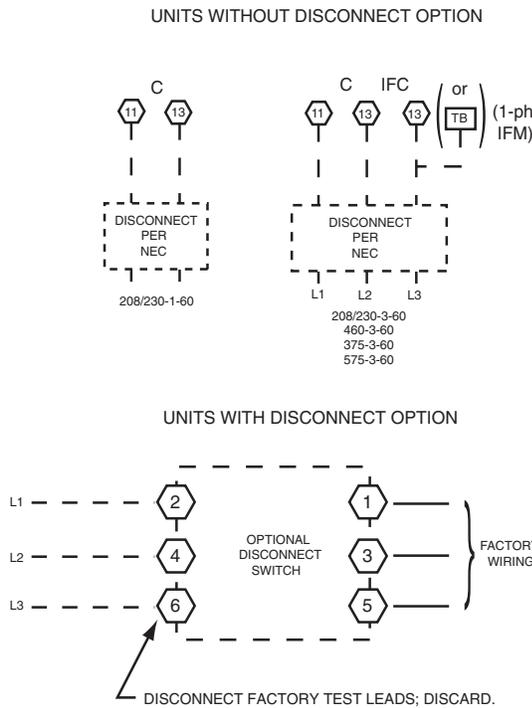

Fig. 23 — Power Wiring Connections
Refer to Fig. 23 for power transformer connections and the discussion on connecting the convenience outlet on page 16.
Field power wires are connected to the unit at line-side pressure lugs on compressor contactor C and indoor fan contactor IFC (see wiring diagram label for control box component arrangement) or at factory-installed option non-fused disconnect switch. Max wire size is #2 AWG (copper only). (See Fig. 23.)
All Units — Field wiring must comply with NEC and all local codes. Size wire based on MCA (Minimum Circuit Amps) on the unit informative plate. See Fig. 23 and the unit label diagram for power wiring connections to the unit power terminal blocks and equipment ground. Maximum wire size is #2 ga AWG per pole.
2. Install power lines to terminal connections as shown in Fig. 23.